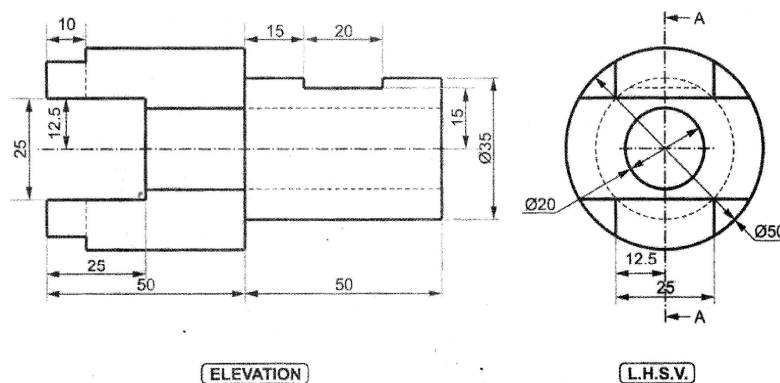

Fig. 7
9. Fig. 7 shows elevation and LHSV of a machine part. Draw :